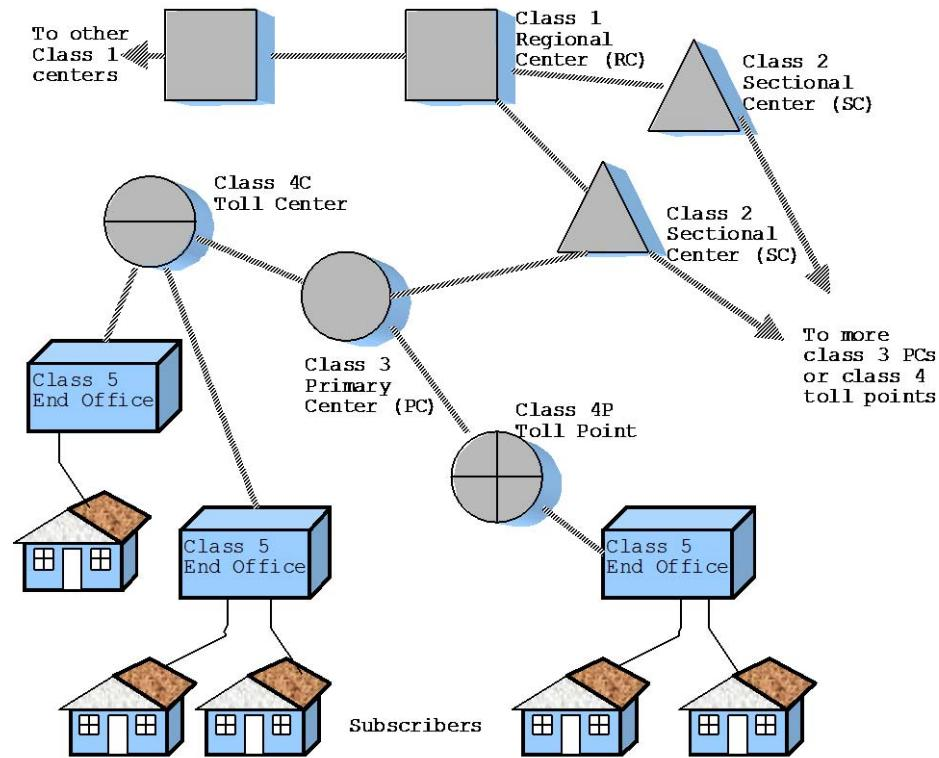

Figure 14-1: The National Telephone System Plan
The modern telephone system has evolved over a century from this crude beginning, and it continues to change. It has several important features. First, the national telephone system is a hierarchical arrangement of calling centers, as shown in Figure 14-1. The word *hierarchy* means a system ranking specific kinds of things, with the most important (and usually least numerous) things at the top, and others below. Most hierarchies look like upside-down trees. The higher levels of this system serve large geographic areas, such as the class 1 regional centers in the figure. The lower levels serve a small area, such as a section of a city.
Figure 14-1 tells us a lot about how calls get from point to point in the system. Normally, calls originate from a subscriber connected to one of the central offices (sometimes called *end offices*). This office directly serves customers -- each residence has a copper twisted-pair line leading to the central office. A central office is designed to handle approximately 4,000 to 10,000 customer lines. Calls within the service area of the central office can be handled directly without any intervention from the levels above. Figure 14-2 is a typical suburban central office. They are deliberately designed to blend in with the surroundings (the phone companies would rather not have everyone be too aware of them) and typically are fortified against natural disaster and intrusion. Most have no windows but are otherwise unremarkable in appearance. There may be *no* staff at a central office unless it is a very large installation.
- 14-3 Why is the hierarchical organization of Figure 14-1 necessary?